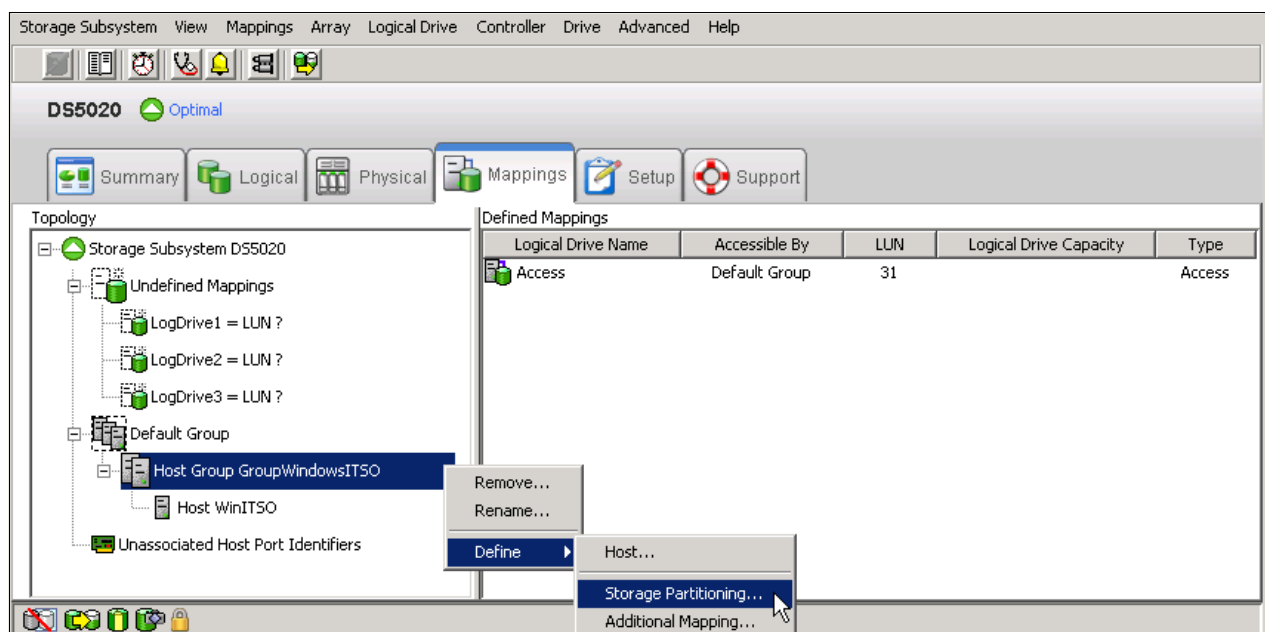

Figure 3-75 Define storage partitioning
1. We start by creating a storage partition by assigning the logical drives to the hosts or host groups. The Storage Partitioning wizard leads you through the process, and you initiate it by right-clicking **Default Group** and selecting **Define** → **Storage Partitioning**. We show an example in Figure 3-75.